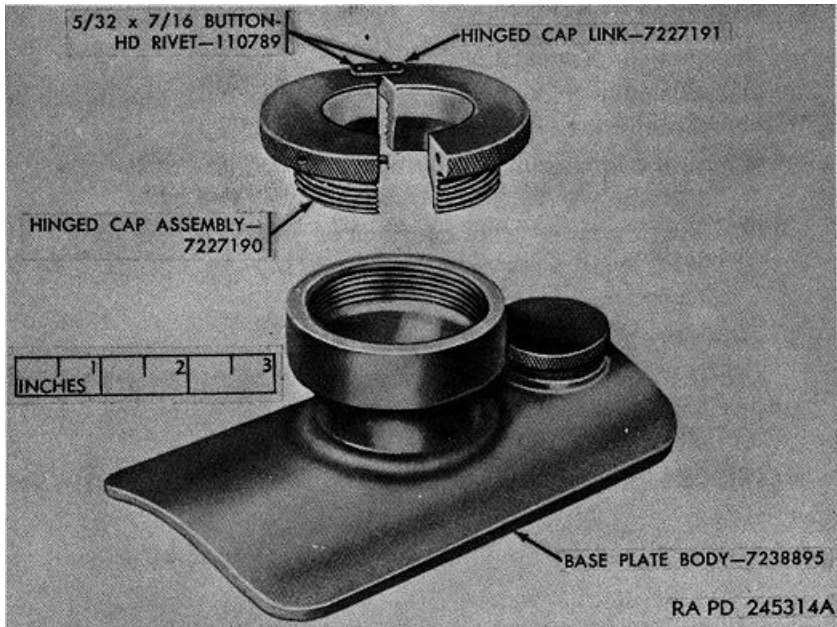

Figure 29. M1 baseplate assembly 7238892-60-mm mortar mount.
- (2) Drive straight pin from latch bolt knob, insert a rod through loop of knob, hold knob in place, and unscrew latch bolt. Remove latch bolt and latch bolt spring.
*b. Baseplate M1 (fig. 29).*
- (1) Unscrew hinged cap assembly from baseplate body.
- (2) Hinged cap assembly can be disassembled by removing the button-head rivets which secure the hinged cap link.
### b. *Baseplate M1* (fig: 29).